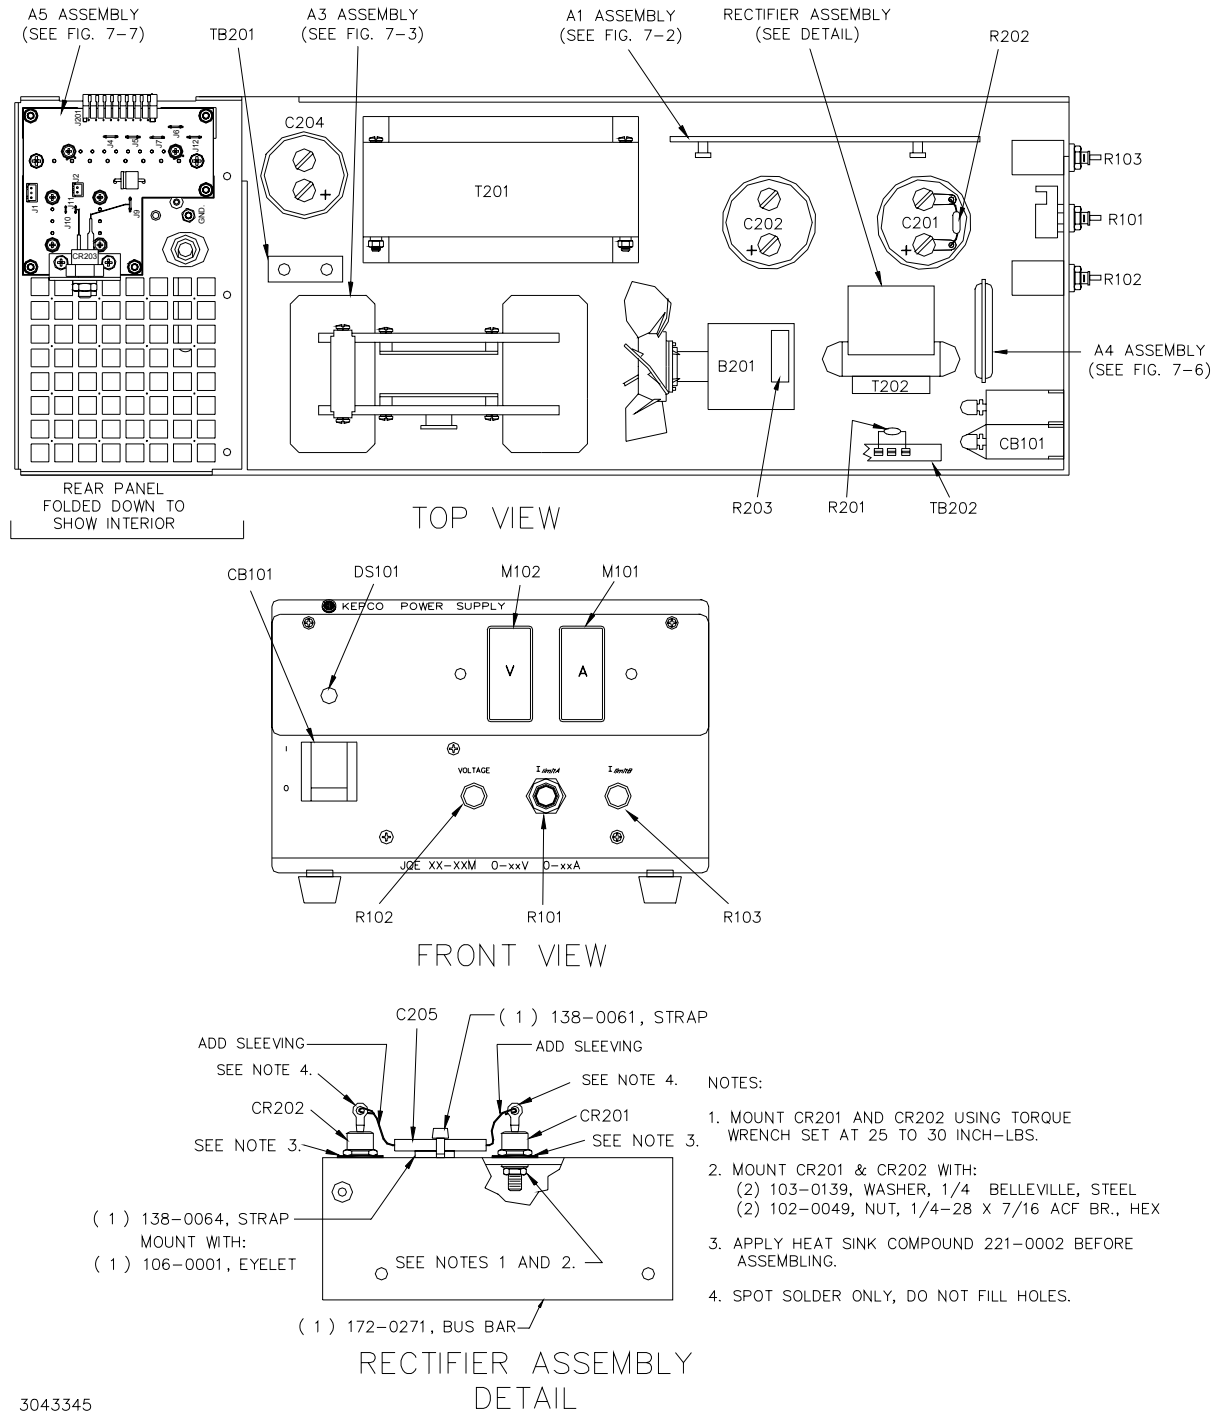

FIGURE 7-1. JQE 15-12MVPY-26954 POWER SUPPLY, COMPONENT LOCATIONS
POWER SUPPLY (Figure 7-1)
**KEPCO****REPLACEMENT PARTS LIST****JQE 15-12MVPY-26954****POWER SUPPLY (Figure 7-1)****CODE: 1306455**